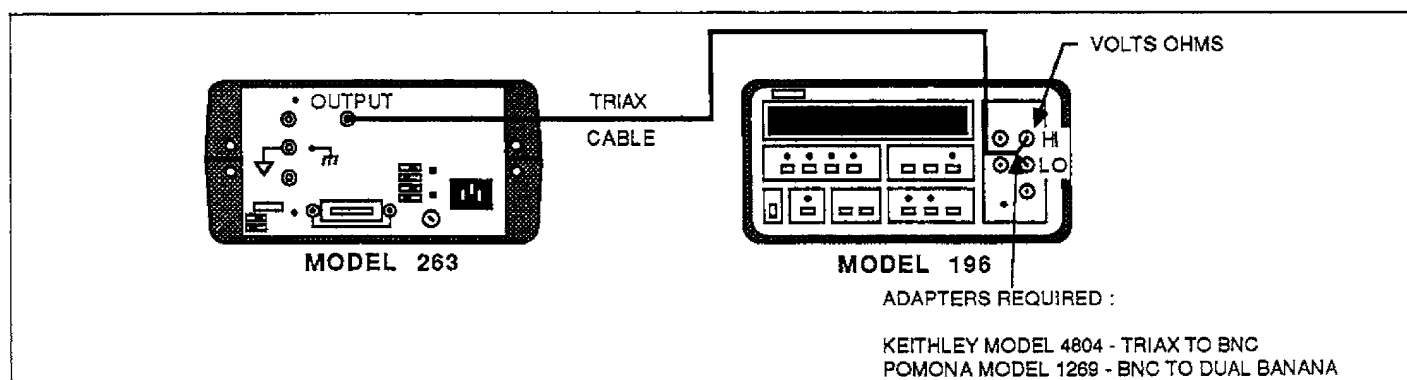

Figure 6-1. VOLTS Accuracy Checks
2. Connect the Model 263 to the Model 196 as shown in Figure 6-1.
2. Still using the test setup shown in Figure 6-1, disconnect the triax cable from the Model 263 and short the center conductor of the triax cable connector to its inner shield.